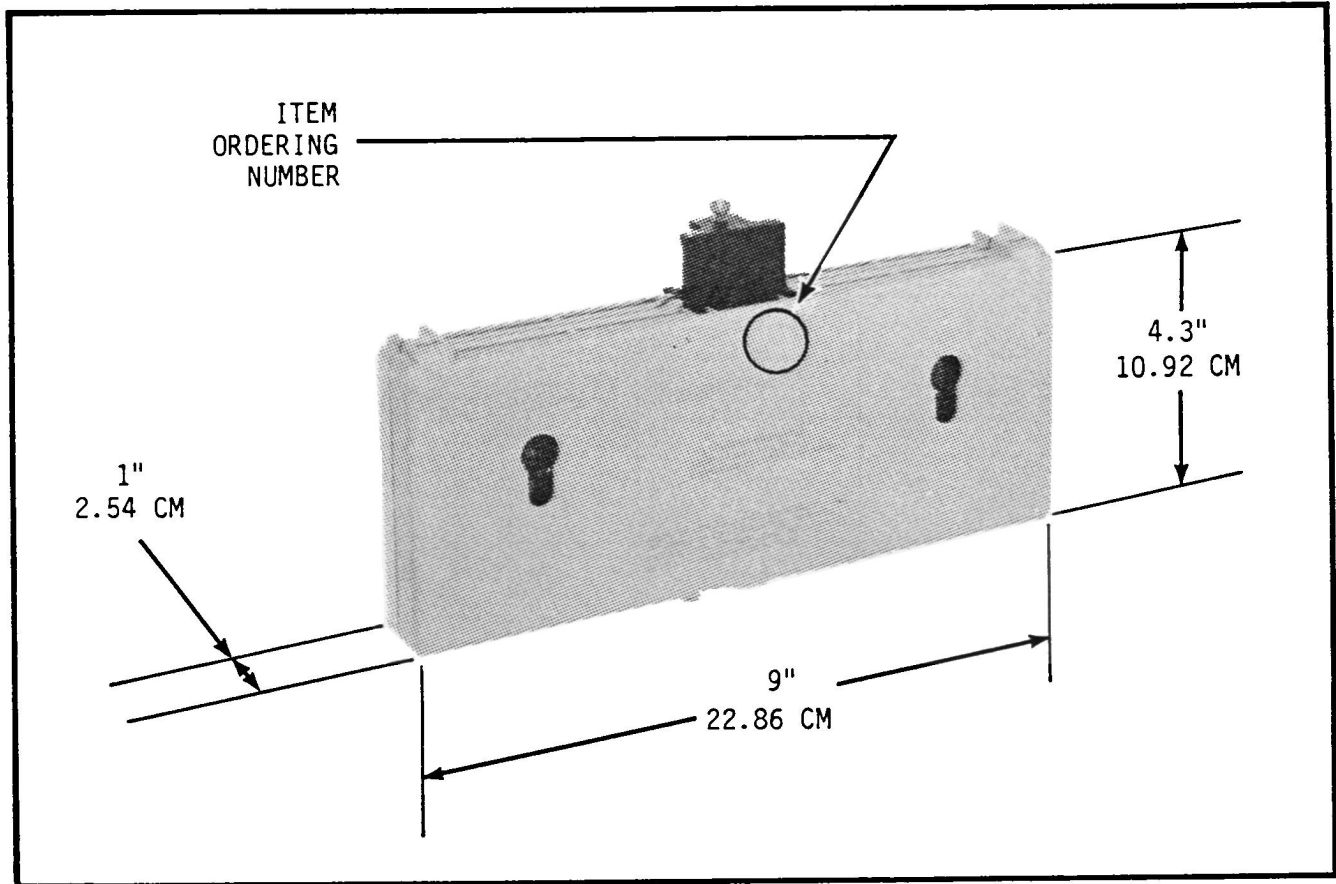

Figure 1 M-164-71 Converter
1.01 This technical practice applies to TELTONE® M-164-71* CONVERT-A-PAK™ tone-to-pulse converters (see Figure 1). Descriptions, ordering information, installation procedures, and troubleshooting procedures are provided.
3.03 The M-164-71 is packaged in a thermal plastic housing as shown in figure 1. The housing meets UL94 V-0 requirements. The M-164-71 includes all the interface circuitry, logic elements, and DTMF receiver functions to convert one linefinder or selector. The unit operates on the same -48 volt battery supply as other telephone equipment.